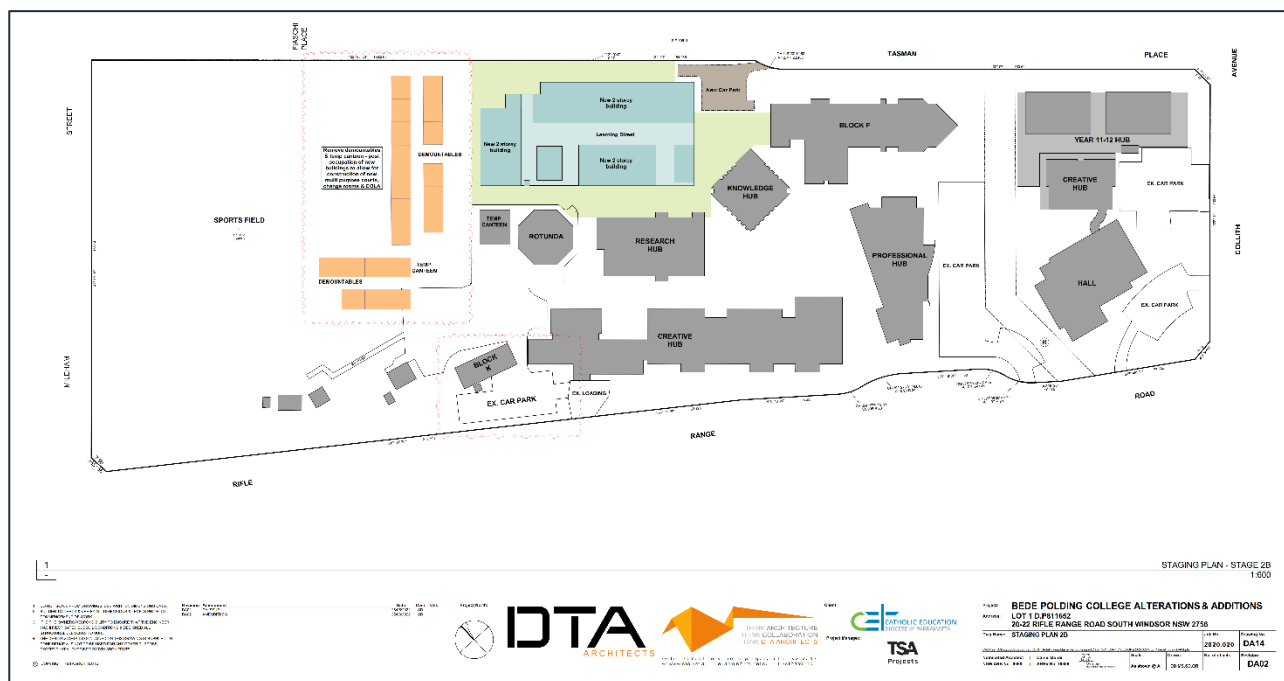

Figure 1-4 Construction Staging Plans – Stage 2B
The construction of the proposed works at Bede Polding will be divided into seven (7) stages: 1A, 1B, 2A, 2B, 2C, 3A and 3B. During stages 1A through to 2B, it is proposed to locate temporary demountable buildings on the northwest portion of the Site near the proposed sports field, as illustrated in Figure 1-4. The demountable buildings will be used as temporary classrooms and as a temporary canteen while the construction works take place.